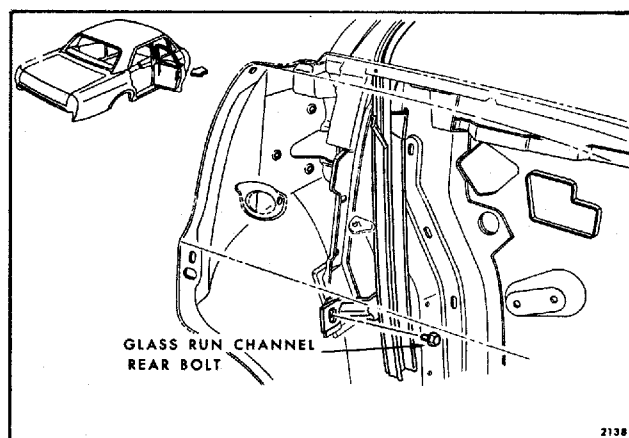

Fig. 7-151—Glass Run Channel Retention - "B" Closed Styles Except 45-46000 Series
4. On all "B & C" Closed Styles except 45-46000 Series, remove glass run channel rear attaching bolt (Fig. 7-151).